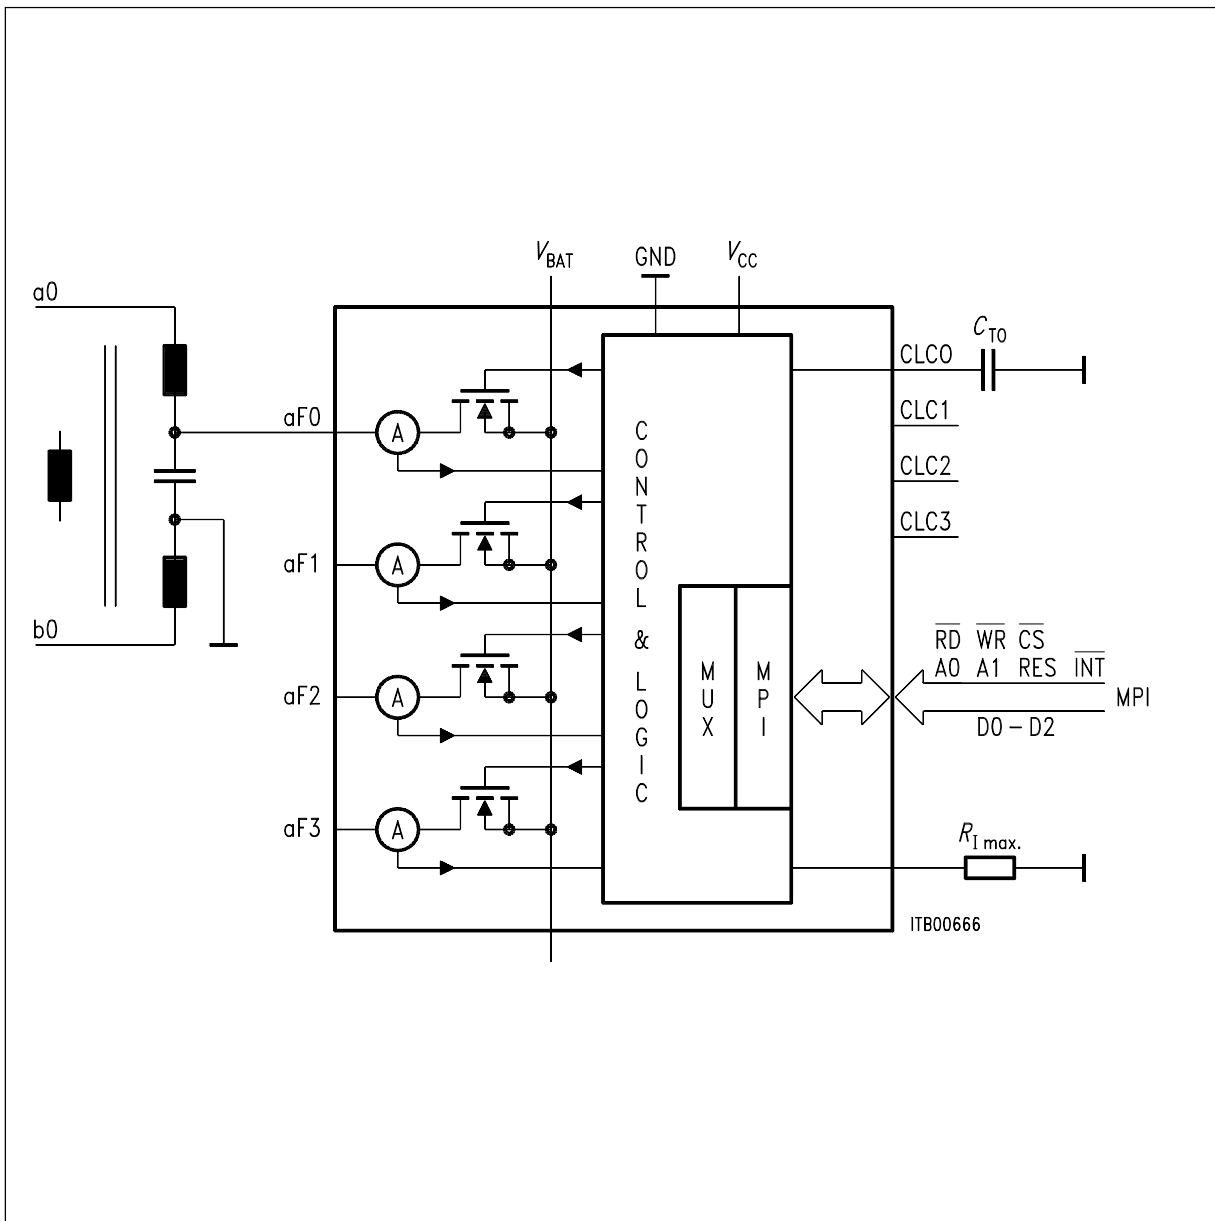

Figure 1
The maximum feeding current is programmed by an external resistor  $R_i$  connected between pin  $R_{imax}$  and GND (see **figure 1**) and is same to all four lines.
**aFi Line Control:** Connecting an external capacitor  $C_{Ti}$  between CLCi and GND (see **figure 1**), the IEPC offers a special time and current dependent turn off characteristic. The IEPC will limit the aFi line current to protect the IEPC against over currents and to avoid discharging of the feeding source. **Figure 4** shows this transient permitted overload (TPO) state.